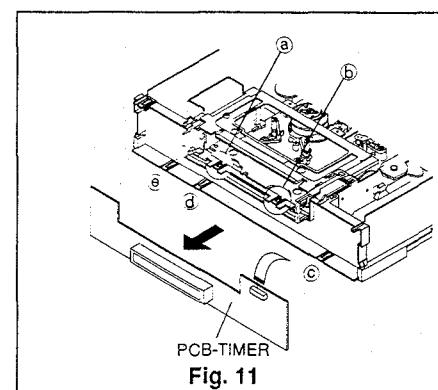

Fig. 11
- ③ Remove five catches (ⓐ~ ⓘ), shown in Fig. 11, then remove the PCB-TIMER.